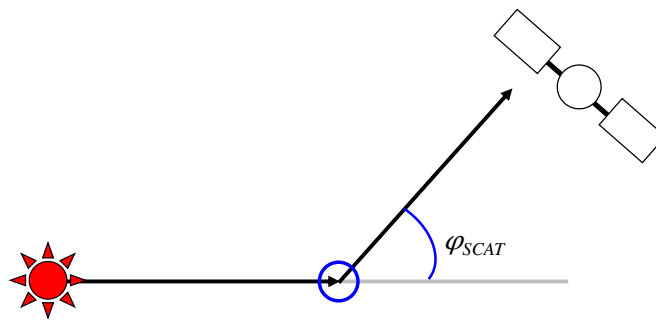

Figure 3.5.8-3 Definition of Scattering angle
(4) The angle between specular reflection vector and satellite view vector (Figure 3.5.8-4)